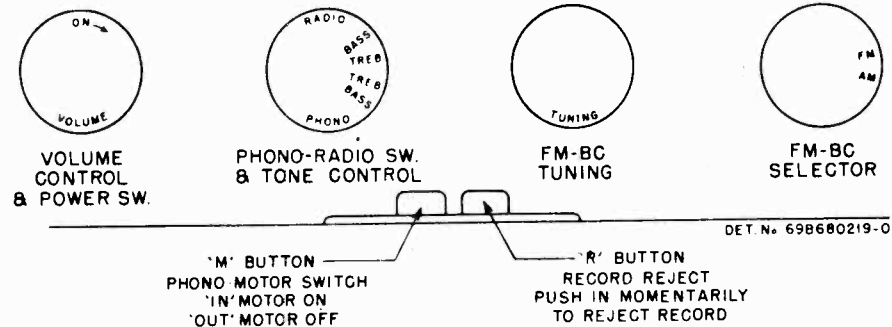

FIGURE 2. OPERATING CONTROLS
**CONTROLS.** Refer to Figure 2 for instructions pertaining to use of the controls located on the receiver front panel.
The FM oscillator trimmer (adjustment 21 in Figure 2) will not be found on all tuners used in these chassis. Complete instructions for aligning tuners with or without this trimmer will be found in alignment charts.